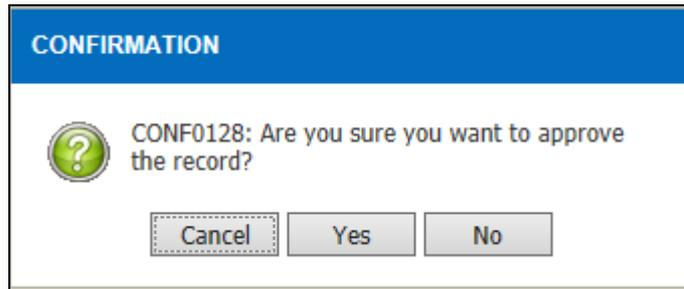

Figure 3.3-3 Confirmation Alert Message
- Click on the  button in Figure 3.3-3 and click  as shown in Figure 3.3-4.